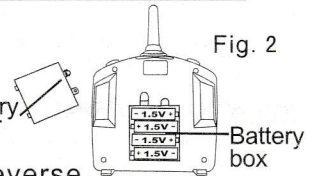

Fig. 2
- 2.Installation of transmitter as Fig. 2, to install 4 AA batteries (additional purchase) in right way